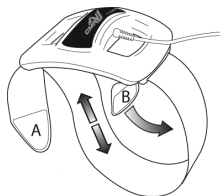

Figure 1
1. Remove Velcro tab “A” and loosen strap. (Figure 1)